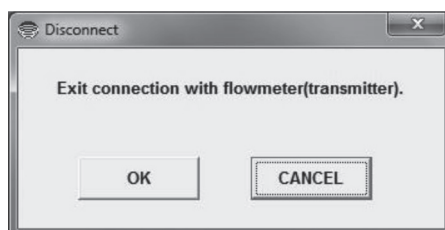

Fig.14
- ② At the message box as shown in Fig. 14, click on "OK". This brings the connection between the flowmeter and LinkTop to come to an end.
- ③ Clicking on "Cancel" abandons the process of terminating the connection.